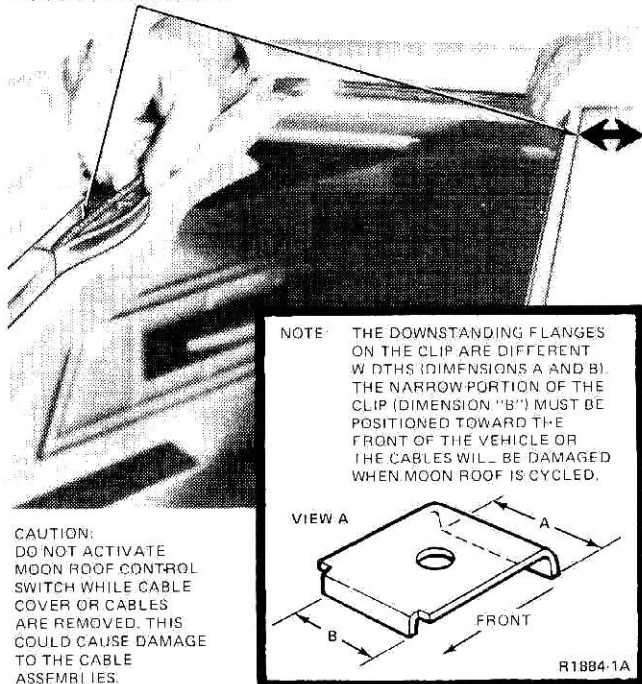

FIG. 14 Cable Clip Position
8. Insert the cable into the track. If the unit utilizes a cable clip as shown in Fig. 14 be sure that it is properly oriented, and install the cover.
NOTE: The front and rear flanges on the clip are not the same width. The narrow side of the clip must be positioned toward the front of the vehicle, and firmly seated into the notches in the track assembly. If the clip is improperly positioned in the track, the flanges will not go into the grooves in the track and will result in extensive damage to the cables. See Fig. 14, View A.